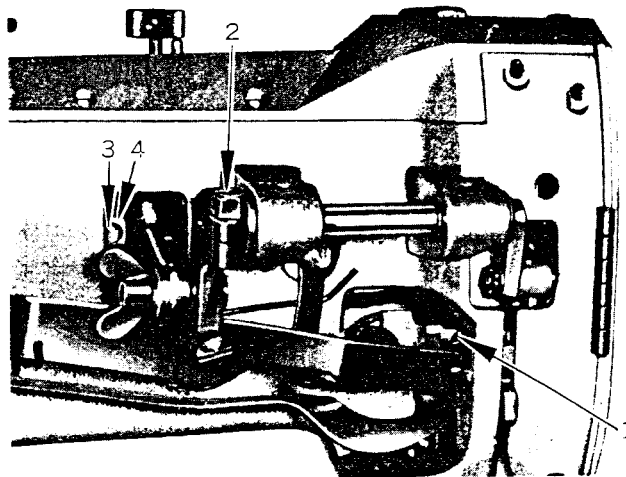

Fig. 22
2. Raise the presser bar lifter and loosen the set screw (1, Fig. 22).
2. Loosen the hexagon screw (2. Fig. 22) and move the presser foot up or down as may be required.
2. Loosen the two screws (3. Fig. 22) and adjust the rotating position of the cam (4. Fig. 22) faster or slower as may be desired.